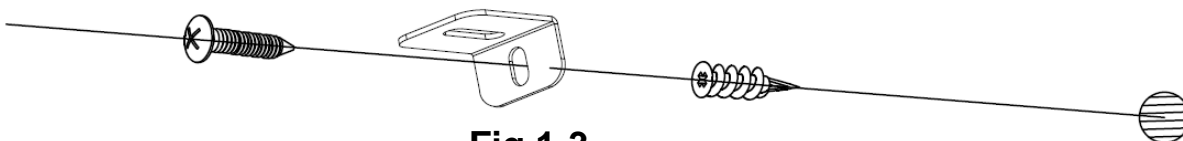

Fig 1-3
C. Install the plastic anchor **(C)** into the dry wall, then install the longer screw **(B)** (supplied) into the hole of the L-bracket into the wall anchor to secure the fireplace from coming off the wall. **(Fig 1-3)**